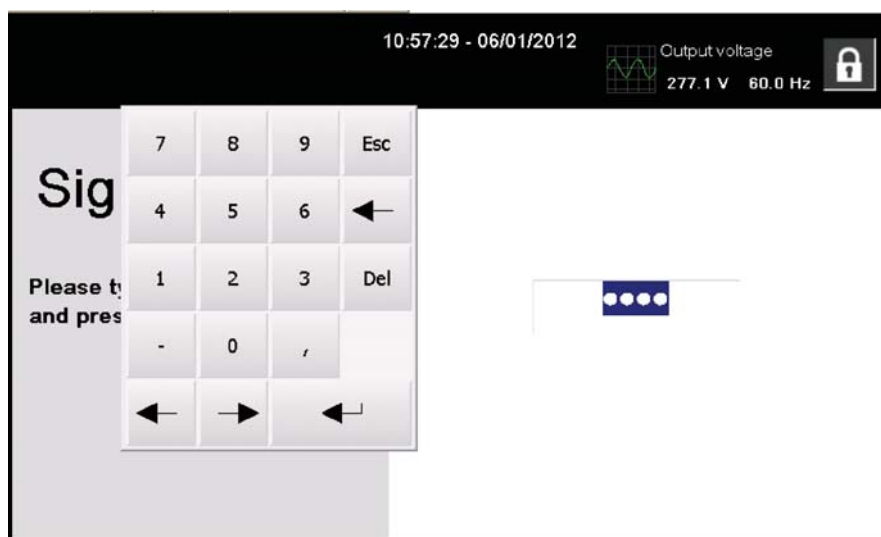

Figure 6-15. Sign In Keypad
3. Enter the password using the keypad displayed and tap the return key (see Figure 6-15).